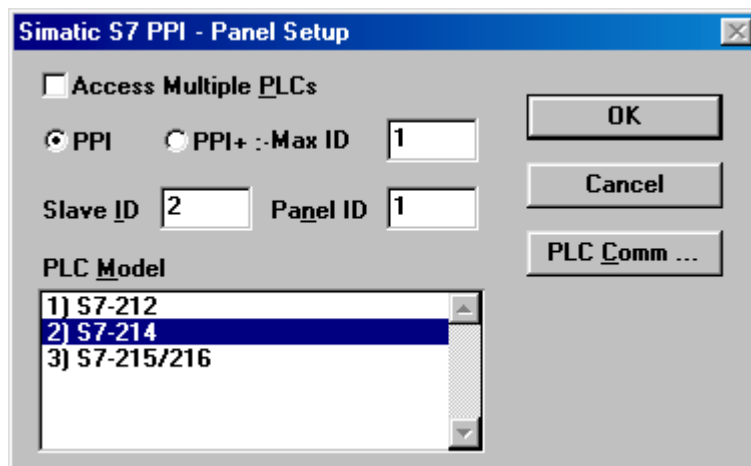

Figure 1 - Controller Setup
- select the option “Project/Controller Setup” (see figure 1)